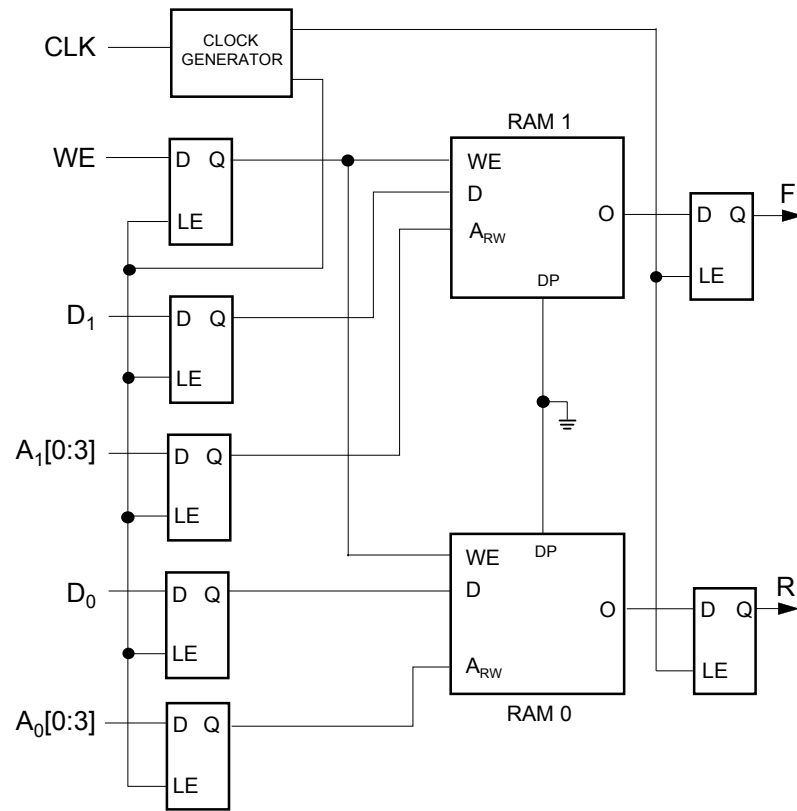

Figure 13: Dual 16X1 Single Port RAM
Figure 13 shows the configuration for the dual 16X1 single port RAM. The cell contains 2 separate 16X1 RAMs where each has their own address and data pins. The dual RAM has 12 inputs. There are 4 bits of address ($A_{00} - A_{03}$) and a data input (D_0) for RAM 0 and 4 separate bits of address ($A_{10} - A_{13}$) and a separate data input (D_1) for RAM 1. Both RAMs share the same write enable (WE) and clock input. All 11 inputs are totally synchronous to the clock. Just like an edge triggered flip flop, the only timing requirement is that all setup and hold times are obeyed. Operation of the RAMs is identical to that of the 32X1 single port. When WE is HIGH, the RAMs are in the write mode. Data presented on the D_0 input will be written to the location specified by addresses $A_{00} - A_{03}$ while data presented on the D_1 input will be written to the location specified by addresses $A_{10} - A_{13}$. During a write cycle, the outputs of the RAMs are in an unknown state. When WE is LOW, the RAMs are in the read mode. After the rising edge of the clock, the data stored in the location specified by $A_{00} - A_{03}$ appears on the output of RAM 0 and the data stored in the location specified by $A_{10} - A_{13}$ appears on the output of RAM 1. This is a single clock operation.